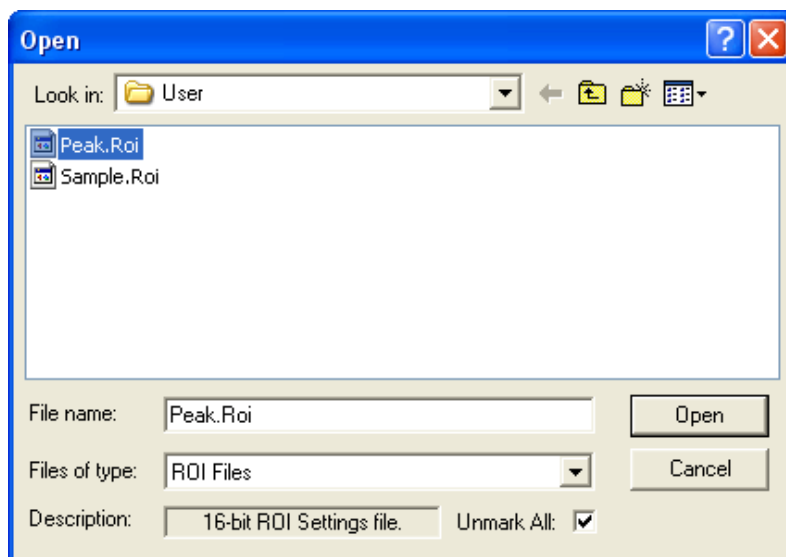

Fig. 59. Load ROI Information from .ROI File.
**Recall ROI...** opens the dialog shown in Fig. 59. Select the desired file and click on **Open**.